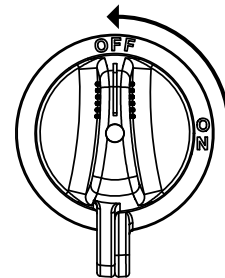

Figure 68. Battery Switch (OFF)
8. Place the **Battery switch** (Figure 68) in the **OFF** position.